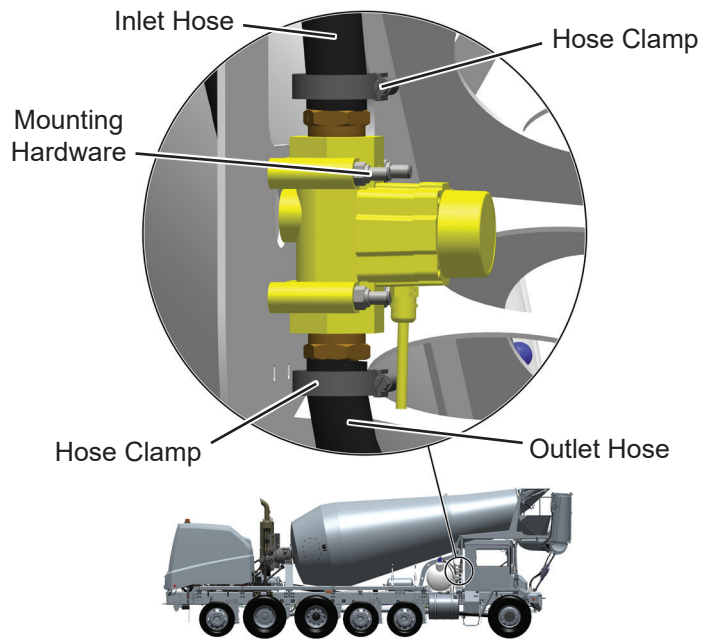

Figure 3
5. Loosen inlet and outlet hose clamps and disconnect hoses from water meter. See Figure 3.
6. Loosen and remove mounting hardware securing water meter to front pedestal. See Figure 3. Mounting hardware will not be reused. If it's not possible to remove the mounting screws due to interference with the water tank, they may be reused for new water meter installation.